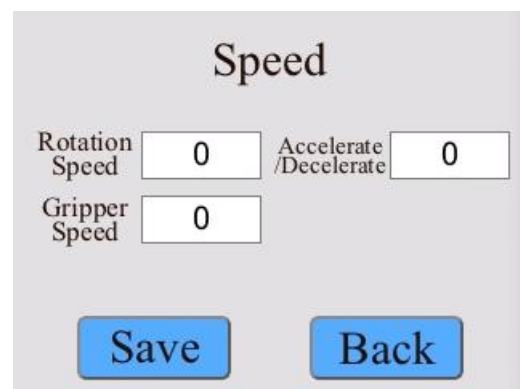

Fig.6
- (3) Speed: The interface is shown in Figure 6. The shaft speed is the rotation speed (the faster, the lower the torque), and the claw speed is the speed when gripping the tube (the set value should be slightly smaller than the diameter of the tube cap).